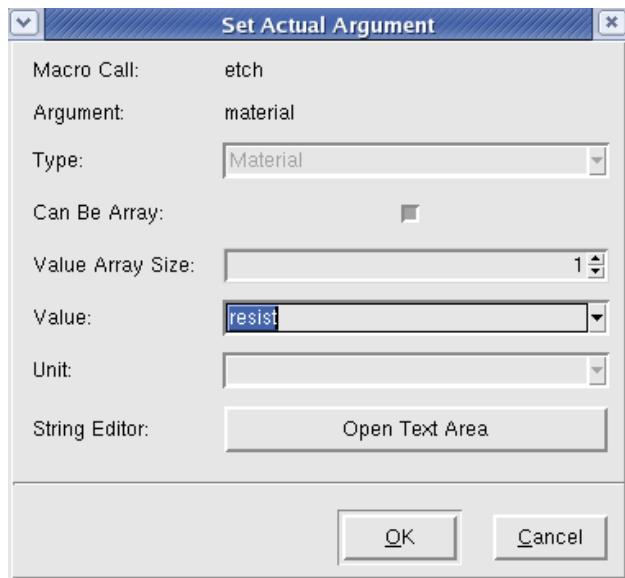
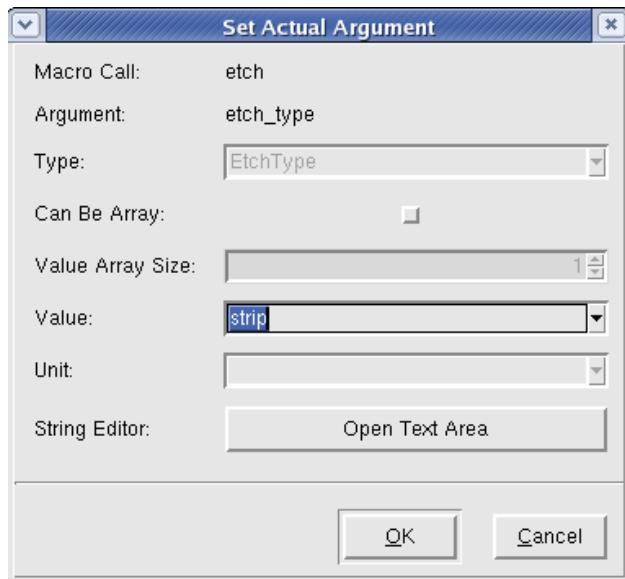

Figure 79: Setting etch step for resist.
Figure 80: Stripping resist.
18. Etch of the photoresist by adding and Etch step to the etch step you just did. Set the material to photoresist (Figure 79), the type to strip (Figure 80). Translate the flow (Figure 81), check the syntax, and save. Save GUI flow too. Run in sprocess and view results (Figure 82).